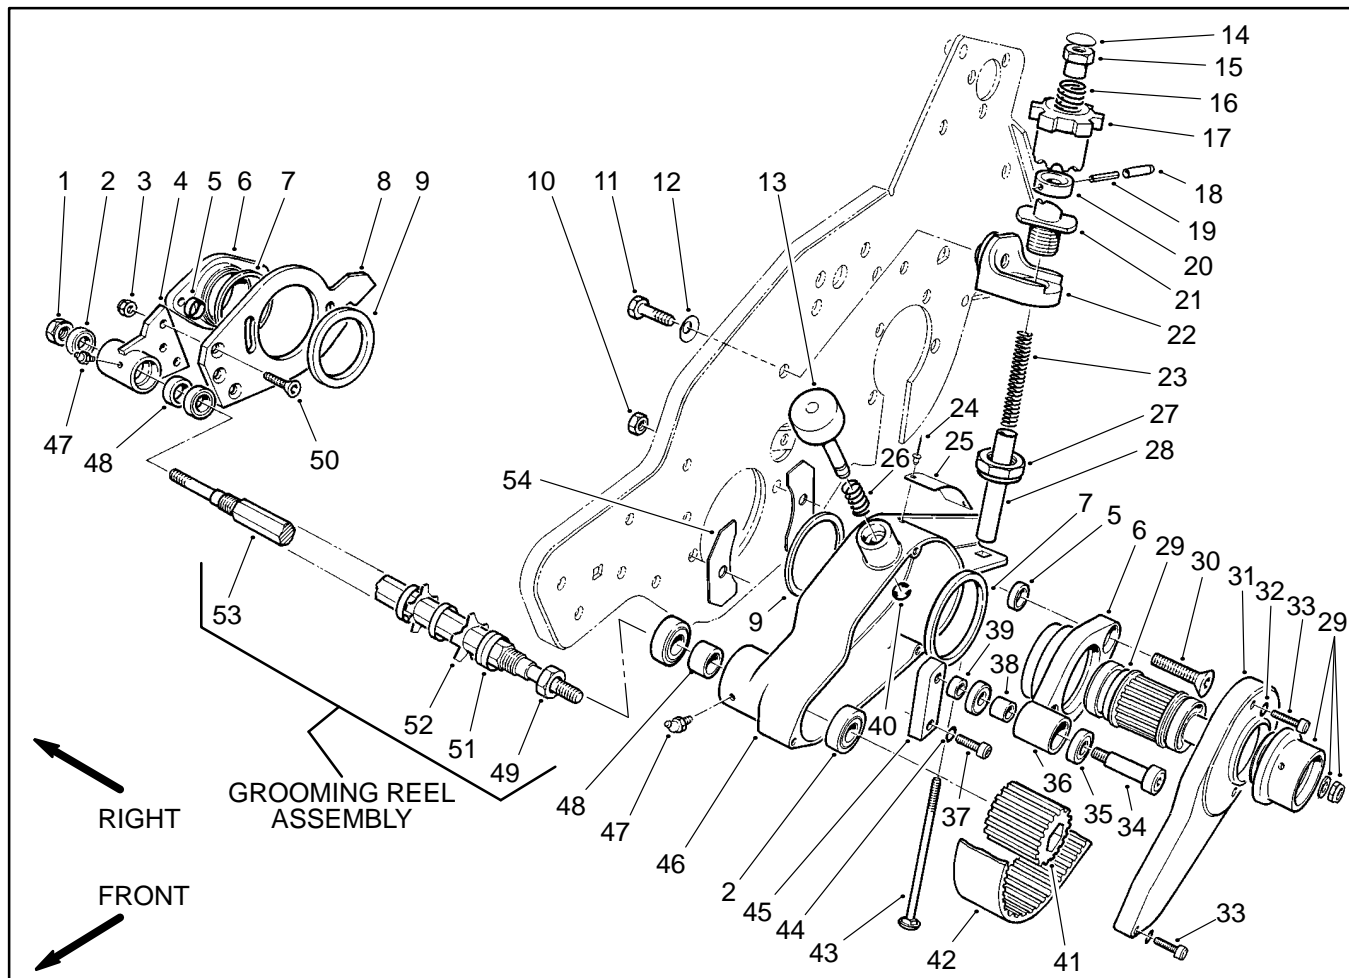
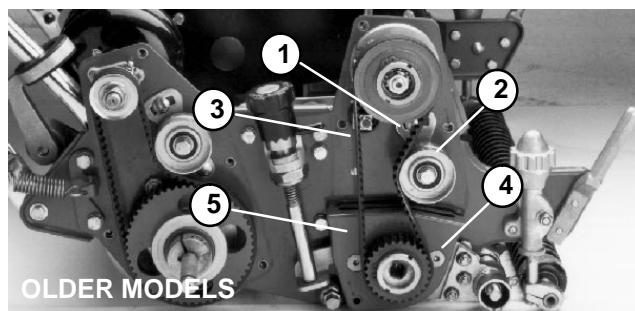
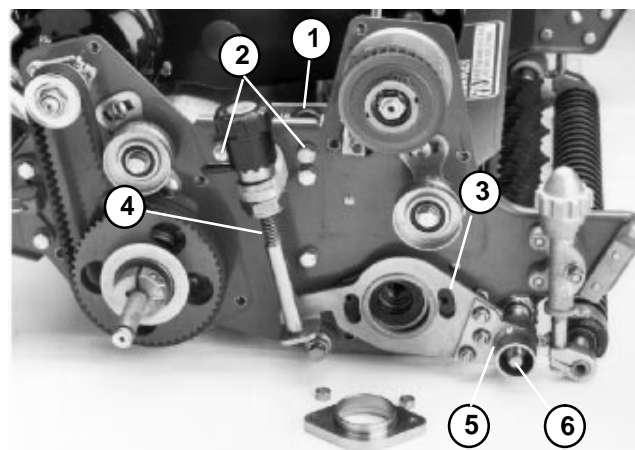

Figure 17
Figure 22
Figure 23
4. On older models, loosen both carriage bolts securing the reel idler bracket to the frame. Pivot idler pulley assembly away from the reel drive belt. (Fig. 22).
5. Secure cutting reel from turning with a block of hard wood. Use a 1/2-inch drive ratchet with an extension to remove the drive pulley and drive belt from the cutting reel shaft (Fig. 22).
6. From the right side of the mower, remove the following (Fig. 17):
A. Remove lock nut (1) securing the shaft (53) to the bearing housing (4).
B. Use allen wrench to remove both flat head screws. Remove groomer arm cover from reel bearing housing (Fig. 22).
C. Remove adapter (6), bearing (7) if necessary, spacers (5), and adapter ring (9) from the side plate (8).
7. On both sides of the mower (Fig. 23),
C. Remove cap screw (11) and belleville washer (12) (inside of frame) securing mounting block (22) to the mower frame (Fig. 17).
9. Remove the three socket head cap screws (33) and lock washers (32). Remove belt cover (31) from the belt drive housing (46) (Fig. 17).
10. In the belt drive housing (46), disassemble the following parts (Fig. 17):
A. Loosen socket head cap screw (37) and idler pulley (36), then remove drive belt (42) from the driven pulley (41).
13. Pull side plate with the groomer adjuster and bearing housing from the grooming reel shaft and reel bearing housing (Fig. 23).
14. Remove grooming reel from the belt drive housing (46) (Fig. 17).
16. Remove adapter (6), bearing (7), both spacers (5) from the belt drive housing (46) (Fig. 17).
18. Remove adapter ring (9) and both slot covers (54) from the reel bearing housing (Fig. 17).